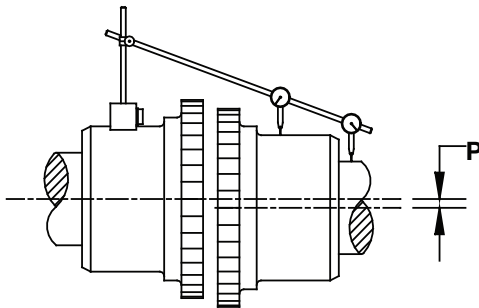

Figure 5 - Parallel Misalignment
- Parallel or offset misalignment is measured by mounting a dial indicator on the reducer coupling hub with the probe contacting outside diameter of the mating coupling hub or mating shaft (Figure 5). Slowly rotate the reducer shaft to determine the amount of parallel offset in both the vertical and horizontal planes. The difference in readings of the dial indicator gauge between any two locations 180 degrees apart will be double the amount of actual eccentricity.